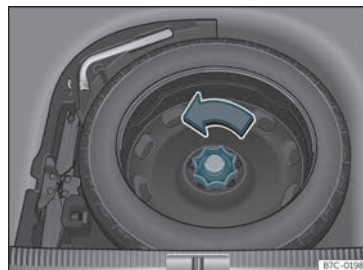

Fig. 216 In the luggage compartment: load floor raised. »
- Turn the thumb wheel anti-clockwise »» **Fig. 216**.